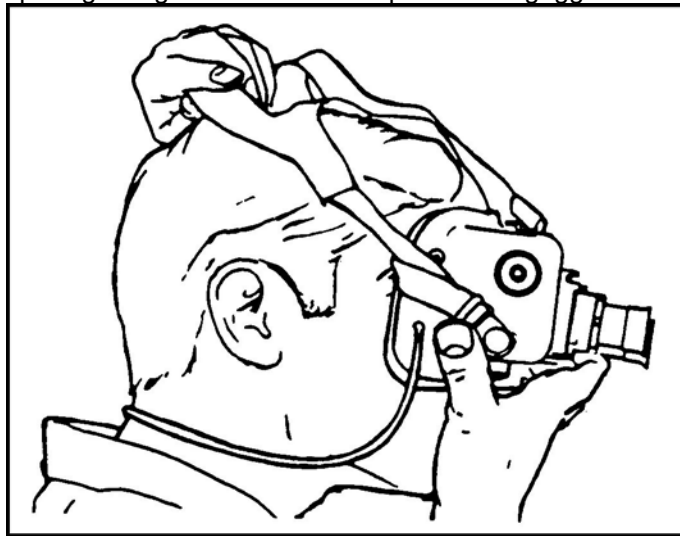

Figure 5. Fitting goggles to face.
- (1) Bend your head so that you are facing the ground.
- (2) With straps loosened, place the goggle headstrap on your head.
- (3) Grasp the headstrap side (horizontal) band adjustment with both hands and slowly pull band adjustment until face mask cushion just touches your face.
- (4) Continue pulling straight back on the straps until the goggles feel snug (Figure 5).